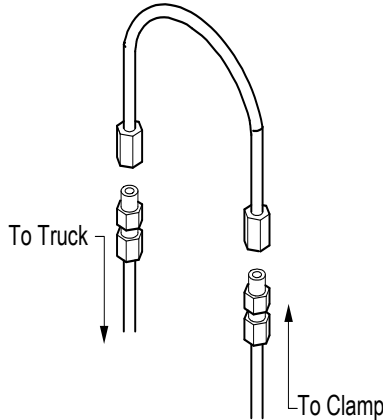

Figure 3-4, Jumper Line
2. Purging can be accomplished by installing a jumper line and operating each hydraulic function (clamp, rotate and side shift if equipped) in each direction for a minimum of 30 seconds. (Figure 3-4)